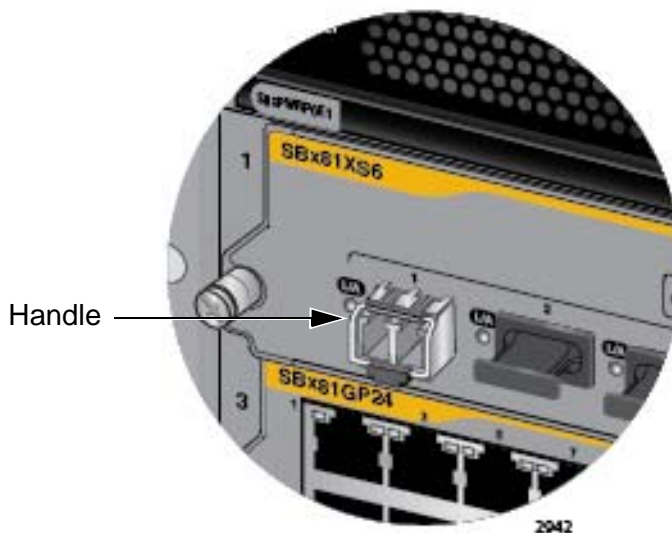

Figure 85. Verifying the Position of the Handle on the SFP+ Transceiver in the AT-SBx81XS6 Line Card
5. Before connecting the cable, verify the position of the handle on the SFP+ transceiver. The handle should be in the up position, as shown in Figure 85.